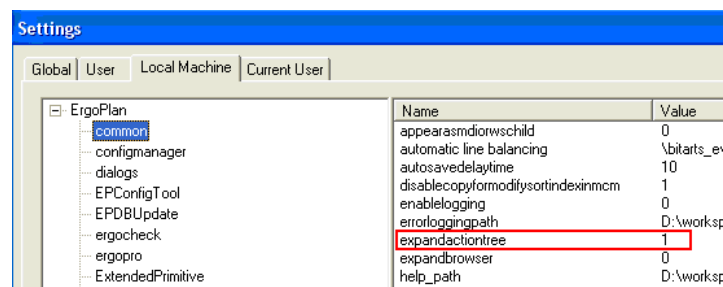

Figure 15: Local Machine - Ergo Plan
- 5) Click **Tools < Settings < Local Machine < ErgoPlan < common** and set the **expandactiontree** to value **1**. Please refer to the Figure 15.